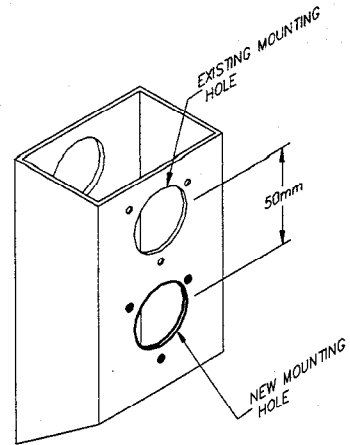

Figure 2 - Relocation of Module Wiring Plug Position
- k. Rework the right-hand rear chassis upright by lowering the plug position 50 mm, on the inboard side, as shown in Figure 2.